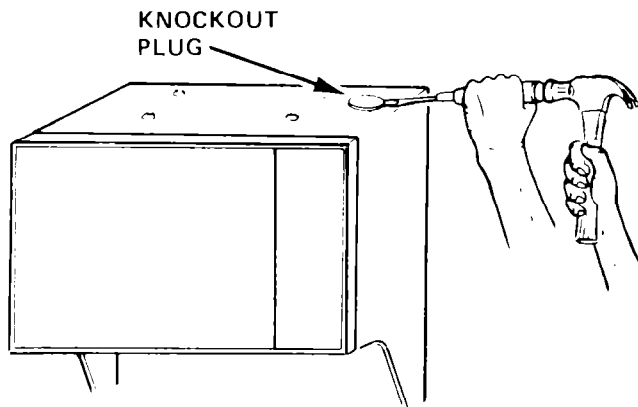

FIGURE 1
1. Using a hammer and screwdriver, pry out the knockout plug at the right rear of the top panel. See Figure 1.